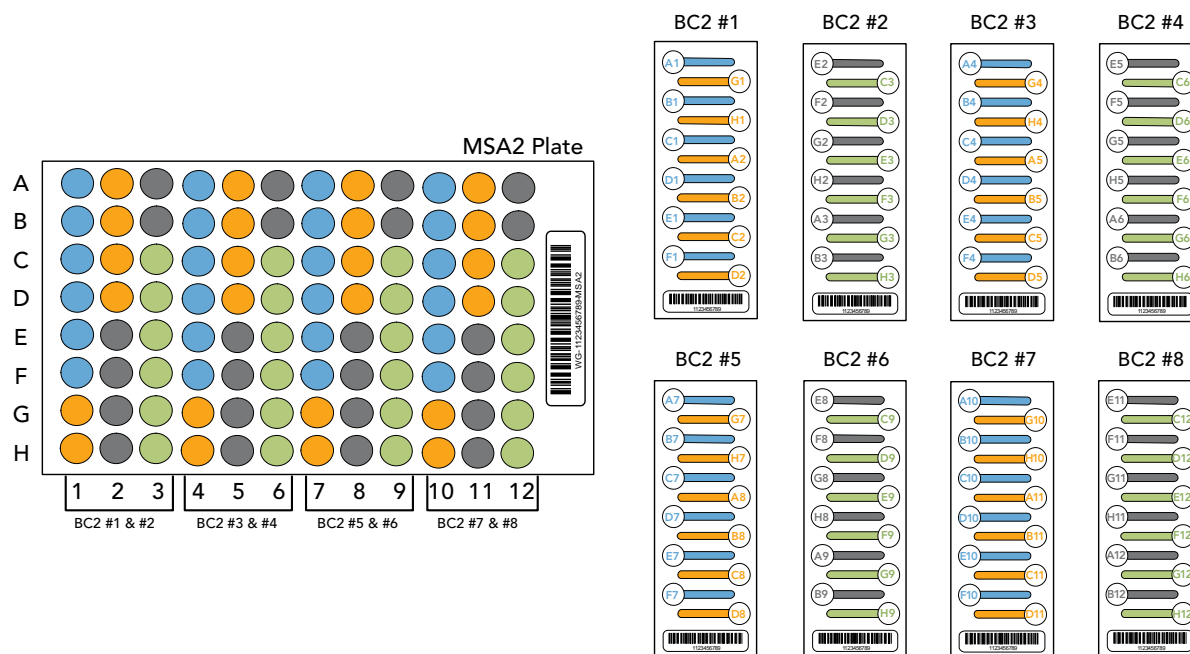

Figure 39 Distributing Sample in MSA2 Plate
on the lab tracking worksheet (repeated in Figure 39) and the following illustrations:
- d. Continue in this manner, following the color-coded sections shown in Figure 39, until all samples are loaded.